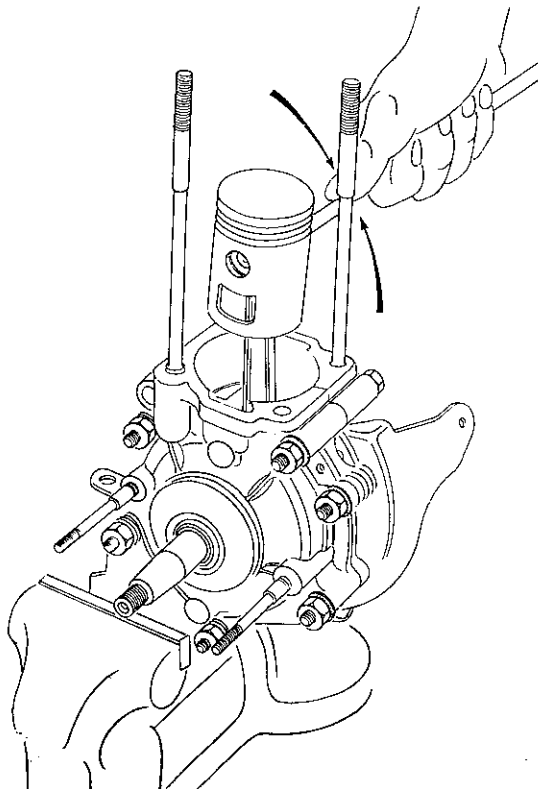

Fig. 9
- Clamp the crankcase in the vice and insert a bar through piston pin as shown in figure 9.